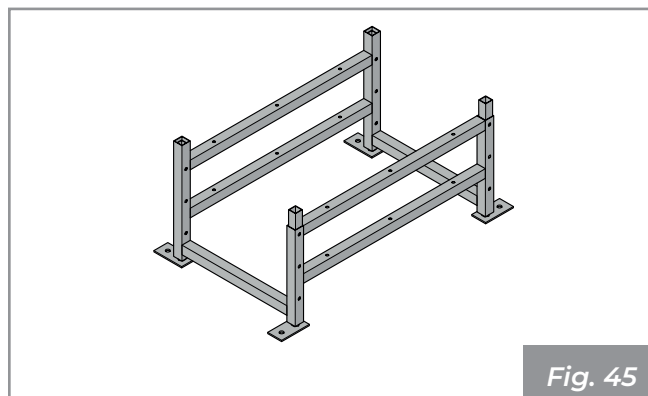

Fig. 45
- Stand kit (for A78 only) (Fig. 45).